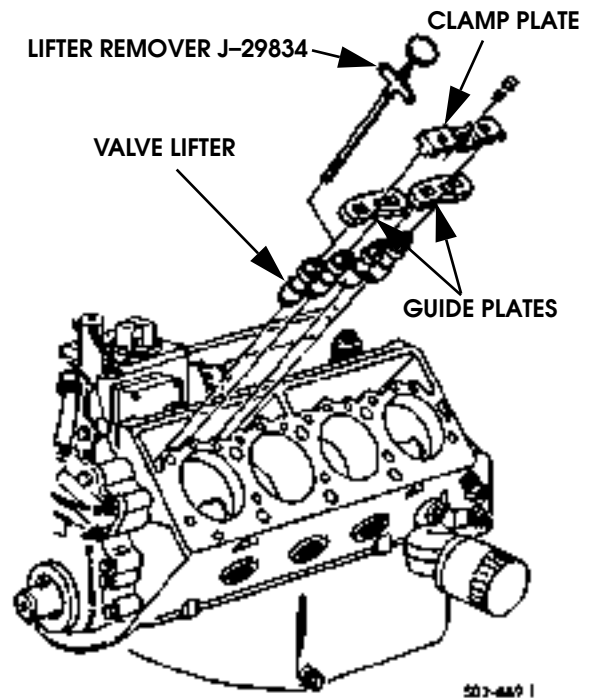

Figure 2-82: Valve Lifters
1. Remove lifter clamp plates from cylinder block (Figure 2-82).
3. Remove lifters from block with tool J-29834 (Figure 2-82).